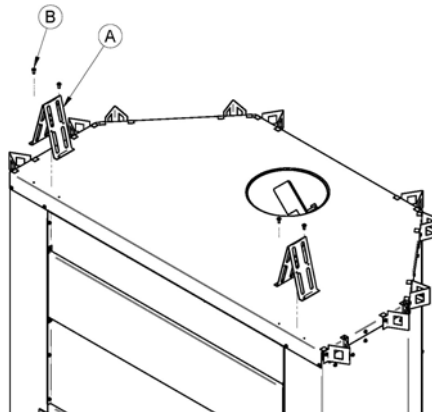

Figure 5
2. Align the holes of the spacers (A) with the pre-drilled holes on top of the fireplace and secure them with the 4 screws (B) as shown in Figure 5: